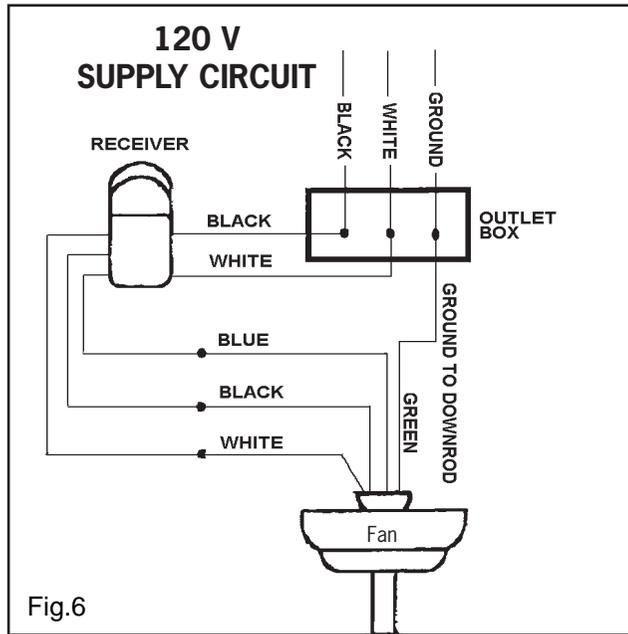

Fig.6
- B Make the following wire connections to the receiver unit (see fig. 6) using the wire nuts supplied.